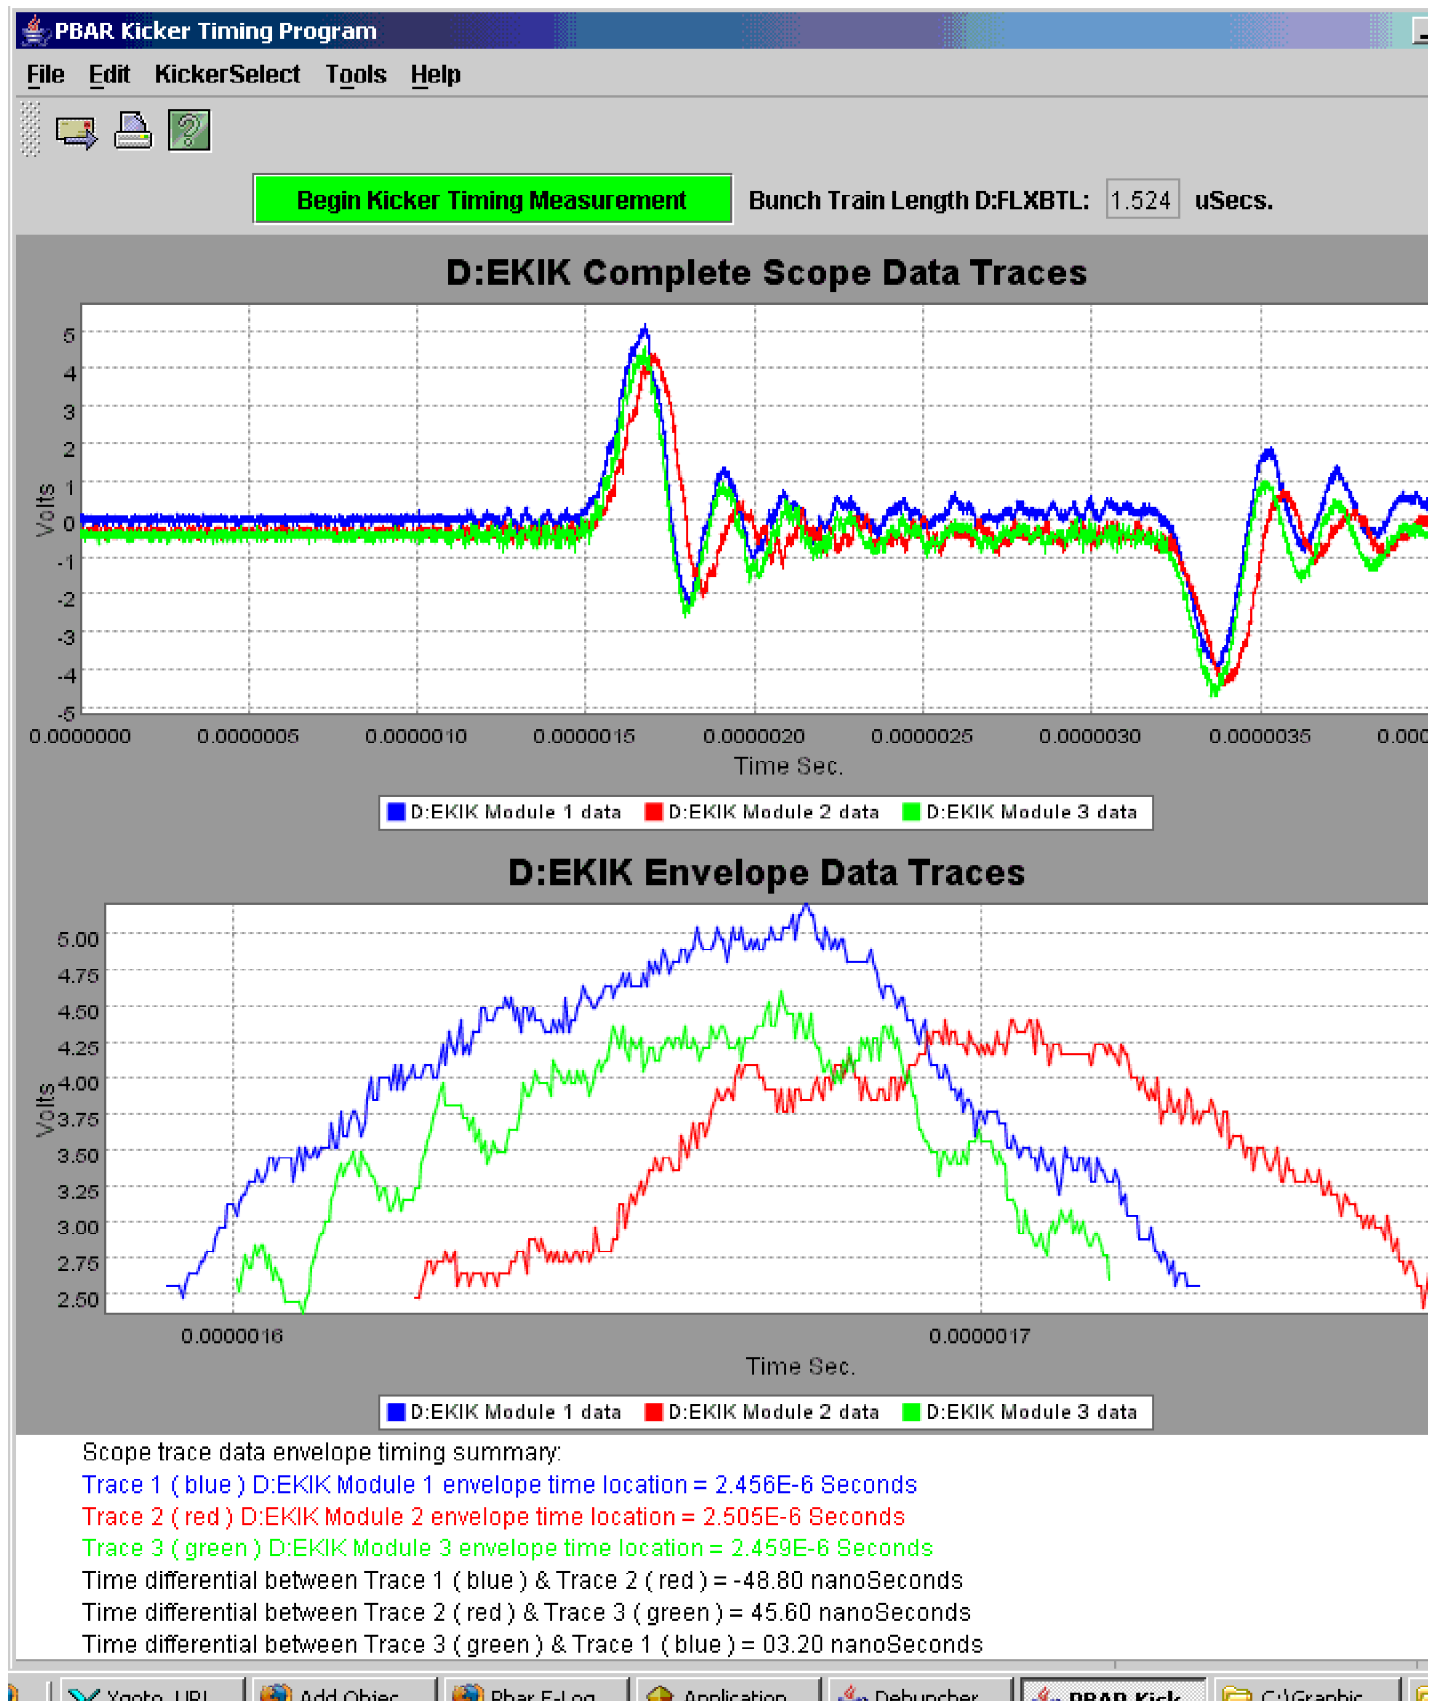

Figure 27:
5.  Click on the green box that is labeled "Begin Kicker Timing Measurement" as shown in Figure 27. D:FLXBTL is used for Debuncher injection and can be ignored in this portion of the procedure.